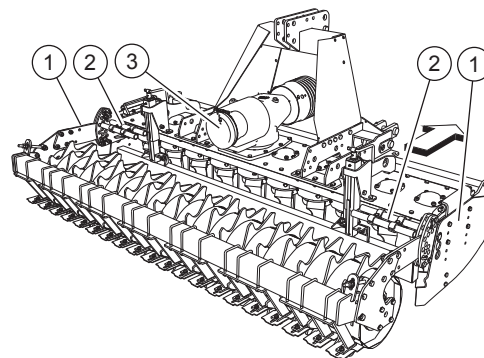

FIG. 21
- Protective side shield (1, "Fig. 21").
- Protections against access to the blades area (2, "Fig. 21").
- PTO guard, rear side (3, "Fig. 21").